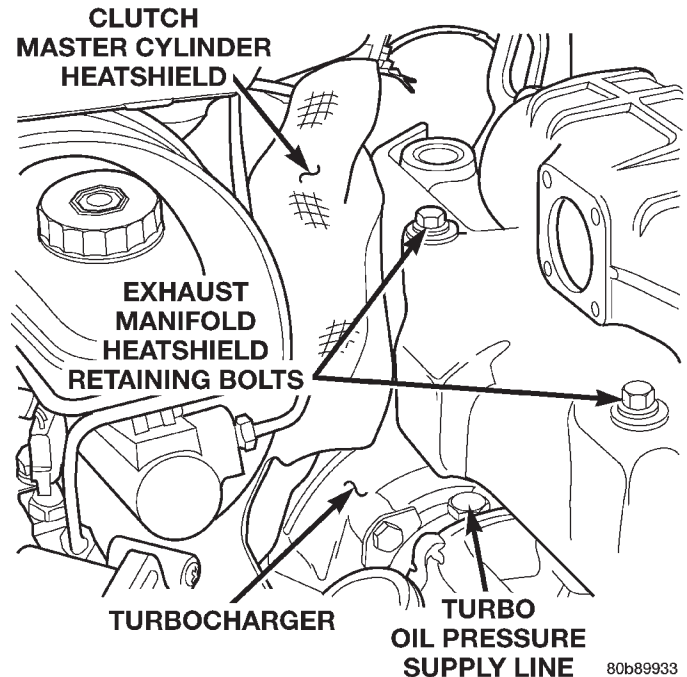

Fig. 21 2.5L Turbo Diesel — Heatshields
(7) Install the exhaust manifold heatshield (Fig. 21). Torque bolts to 11 N·m (97 in. lbs.).